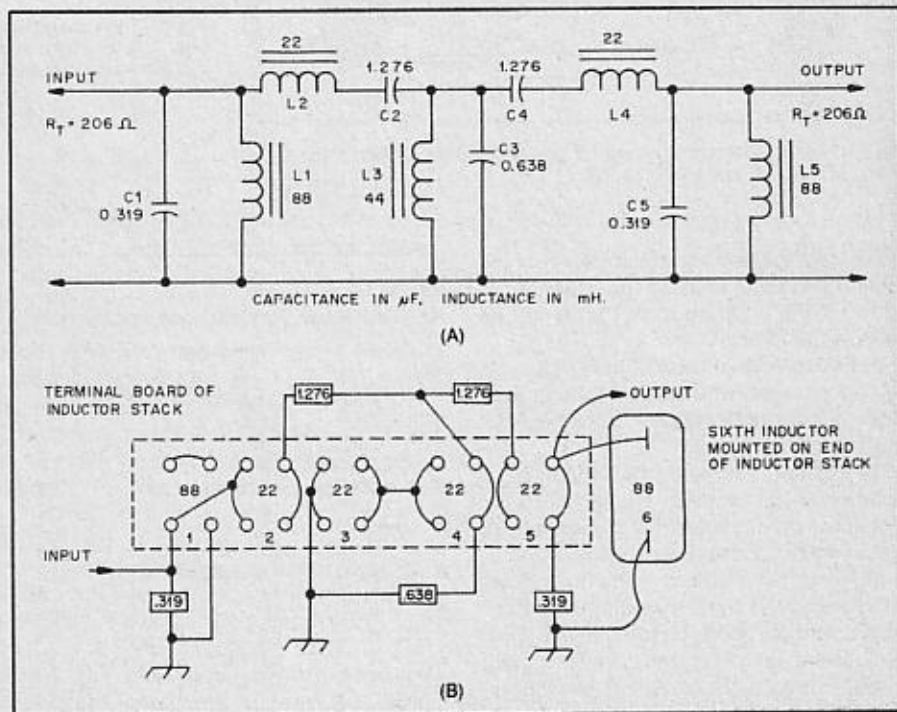
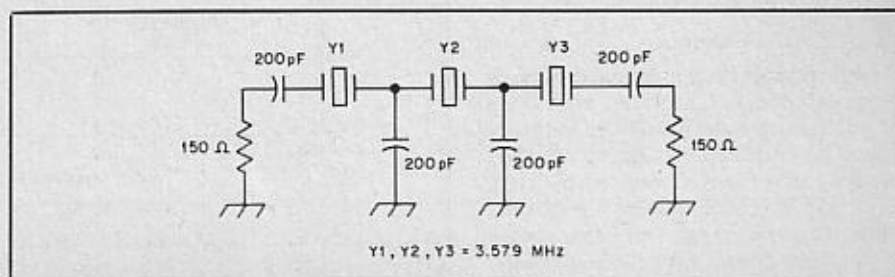
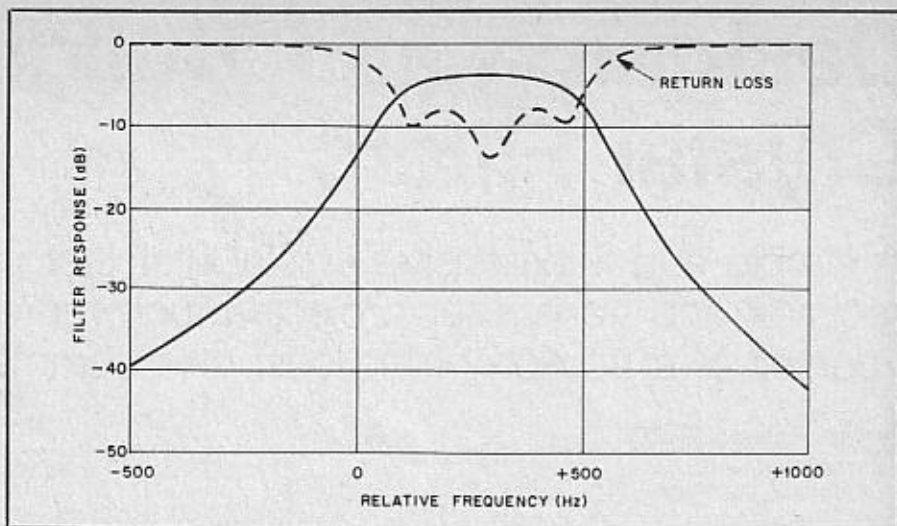

Fig 4—Schematic diagram of the SSB band-pass filter (A). Shown in B is a pictorial wiring diagram of the terminal board on the inductor stack.
Fig 2—A simple CW filter using three crystals.
Fig 3—Frequency response of the filter of Fig 2. The dots show the input return loss, indicating the quality of the impedance match.
Fig 3—The assembled filter is shown installed in a CR-800 aluminum box. The thru/bypass switch (S1) and input/output transformers (T1, T2) are at the left end of the box.
4) Obtain a suitable box and make holes for the inductor mounting clip, the DPDT switch, and the phone jack and phone cord. First, install matching transformers T1 and T2 and the inductor stack with capacitors. Fasten the transformers (with leads pointing up) to the bottom of the box with silicone rubber sealant. Secure the stack to the bottom of the box with a 1-3/8-inch component mounting clip and two no. 6-32  $\times$  5/16-inch screws. Instead of the 8  $\times$  3  $\times$  2 3/4-inch aluminum box shown in Fig 3 (Mouser Stock No. 537-CR-800), a small cardboard box may be used to minimize cost.
While audio filters are most often used during CW reception, the SSB operator can also benefit from their use. Shown in Figs 4 and 5 is a passive band-pass filter designed by Ed Wetherhold, W3NQN, for phone operation. This filter was described in Dec. 1979 *QST*.
A simple and practical filter for a beginner's first CW superheterodyne receiver is shown in Fig 2. Three crystals are used. The capacitors are 200-pF units, a standard value. Experimentation (done here with the computer) shows that a good filter shape is obtained with an end termination of 150 ohms. Fig 3 shows the frequency response of this filter. The -3 dB bandwidth is 403 Hz, and the insertion loss is 3.8 dB. The loss will be lower with better (higher Q) crystals. The impedance match is shown in the figure as a series of dots. This is the return loss normalized to the source impedance—150 ohms for the filter shown.
Fig 4 illustrates the effect of altering the terminating resistance. Fig 4A shows the result of 75-ohm terminations, lower than the desired 150-ohm value. The filter shows some passband ripple and a higher insertion loss. The effect of a 300-ohm termination is shown in Fig 4B, where the peak shape becomes more rounded, with degradation of skirt response. While the poorer frequency domain shape is generally less desirable, the filter with the higher termination has a significantly improved group delay; this filter would be preferred for high-speed data applications.
Fig 4—Frequency response of the filter of Fig 2 with changes in the end terminations. Curve A shows response with 150-ohm terminations; curve B shows the response using 300-ohm resistors. See the text for considerations of which is "better."